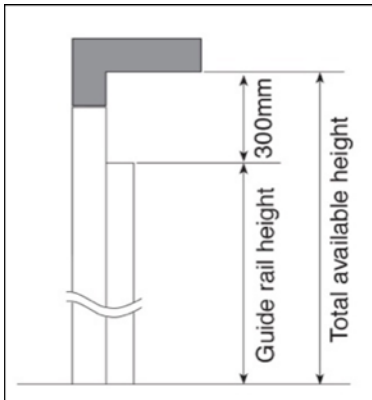

Fig 7
B. Where only limited headroom is available guide rail length equals total available height less 205mm / 300mm as shown in **Fig 7**.